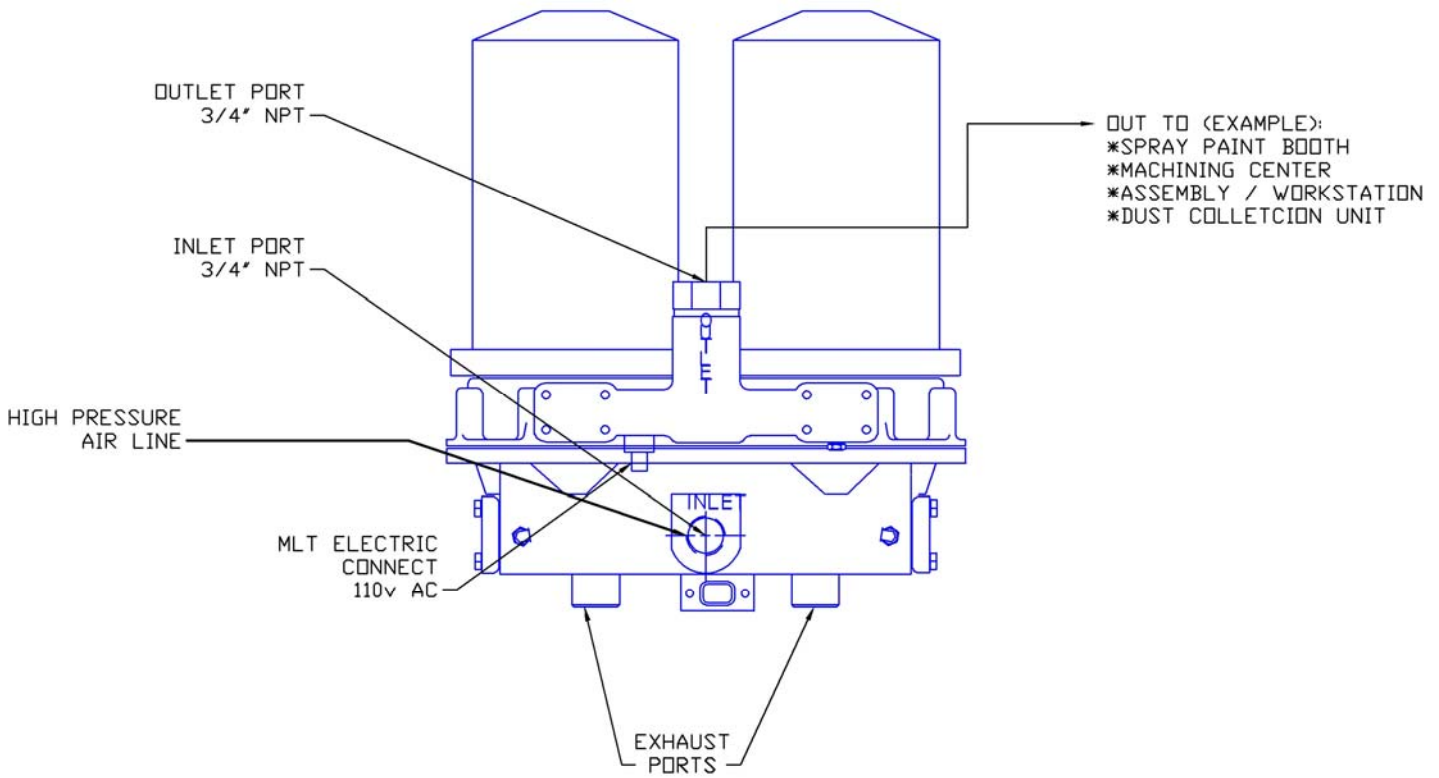

Figure 1: Air Connection Schematic
1. The JP must be mounted with the exhaust ports positioned downward (ref. Figure 1, Pg. 5).
3. Mount JP down stream of air compressor reservoir (ref. Figure 1, Pg 5).
1. Connect high-pressure airline (175 psig max.) to JP inlet port (ref. Figure 1, Pg 5).
2. Connect JP outlet port to system airline (ref. Figure 1, Pg 5).